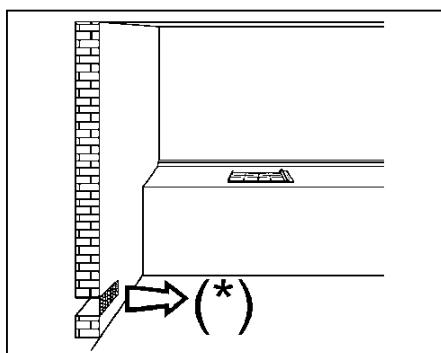
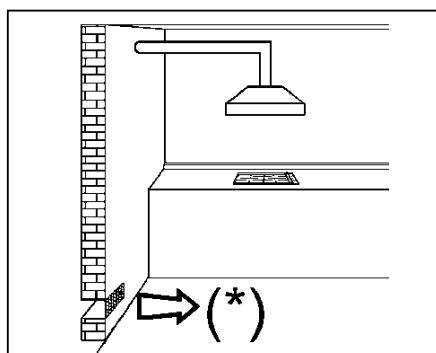
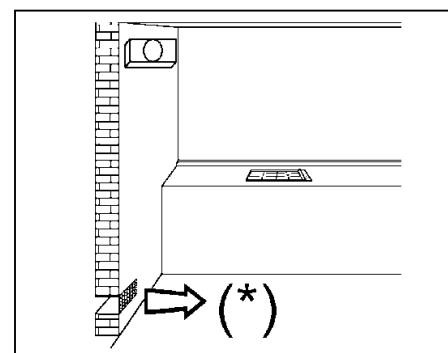

FIG. 3
FIG. 4
FIG. 5
- *use of a gas cooking appliance produces heat and moisture in the room in which it is installed. The room must therefore be well ventilated by keeping the natural air vents clear (fig. 3) and by activating the mechanical aeration device (suction hood or electric fan fig. 4 and fig. 5).*